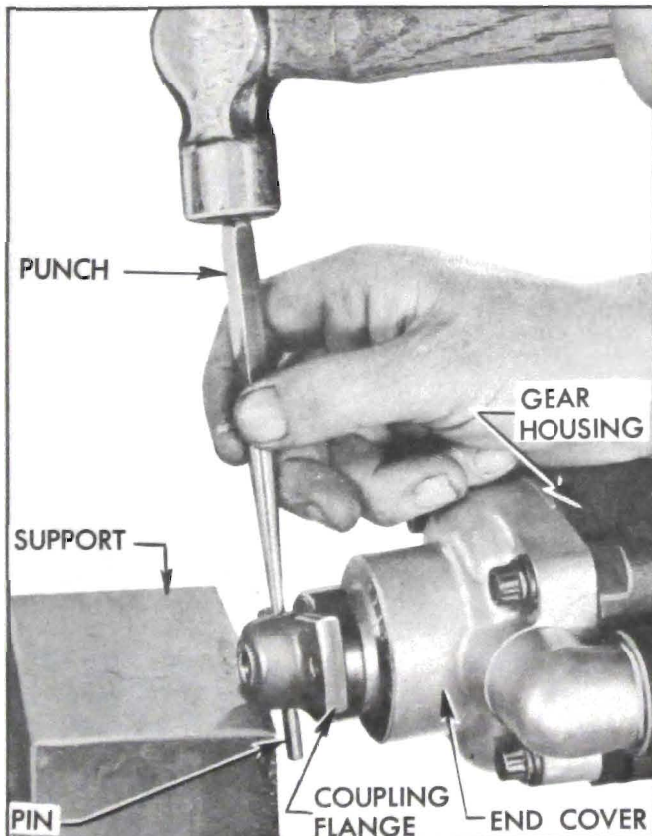

Figure 8-23—Removing Coupling Flange
2. Remove flexible coupling and mark coupling flange and worm shaft before disassembly. Support coupling flange and remove coupling flange and felt washer from worm shaft by driving pin out with punch. See Figure 8-23.